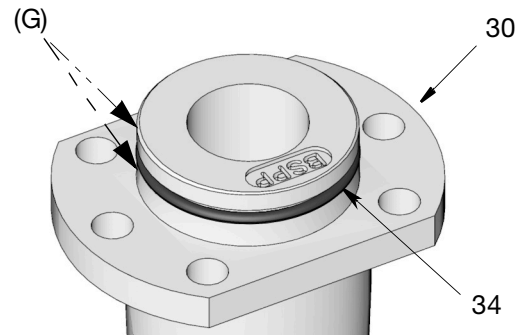

FIG. 11
- Verify outlet o-ring (34) is in place on outlet (30). Apply a thin layer of grease (G) to o-ring as shown in FIG. 11.